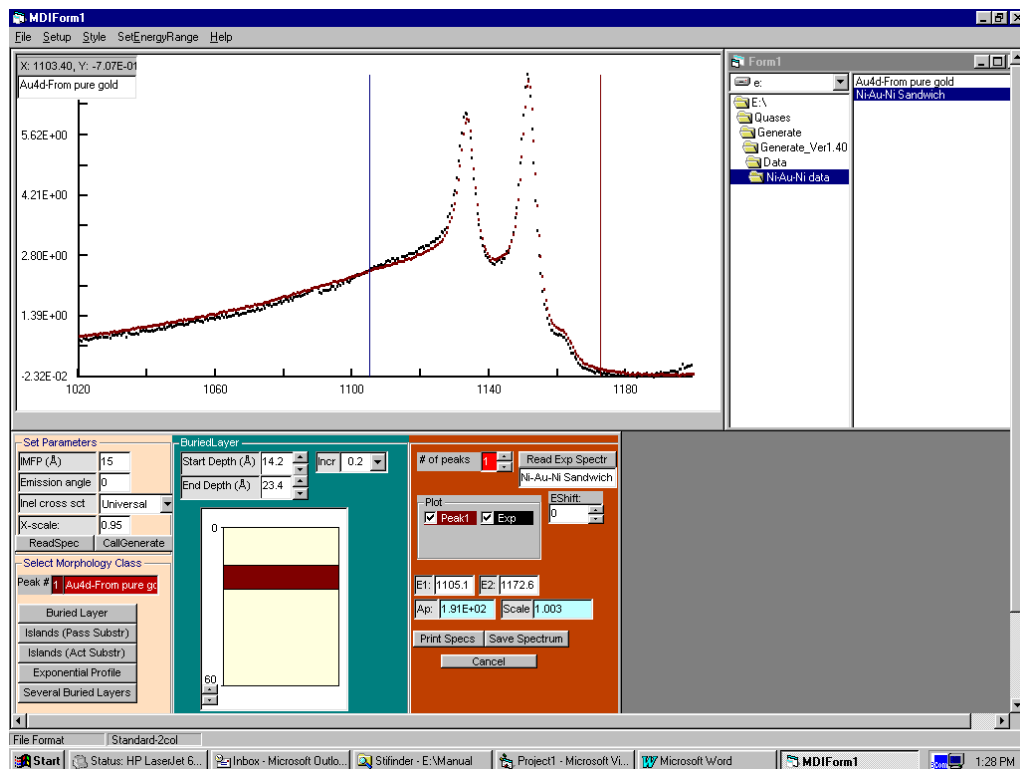

Figure 5.9
- Change the **Start Depth** and **End Depth** until **Scale** is ~ 1.00 (see fig.5.9)